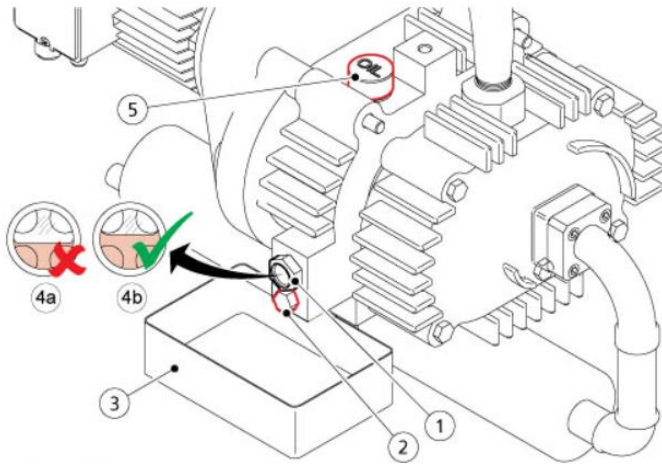

Figure 2.2
3. Refer to figure 2.2 for the appropriate oil level
4. Refer to figure 2.2 for an image of the vacuum motor